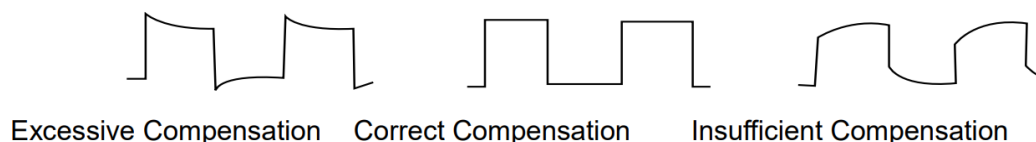

Figure 4-2 Compensating Calibration of Probe
2. View displayed waveforms, as shown in Figure 4-2.